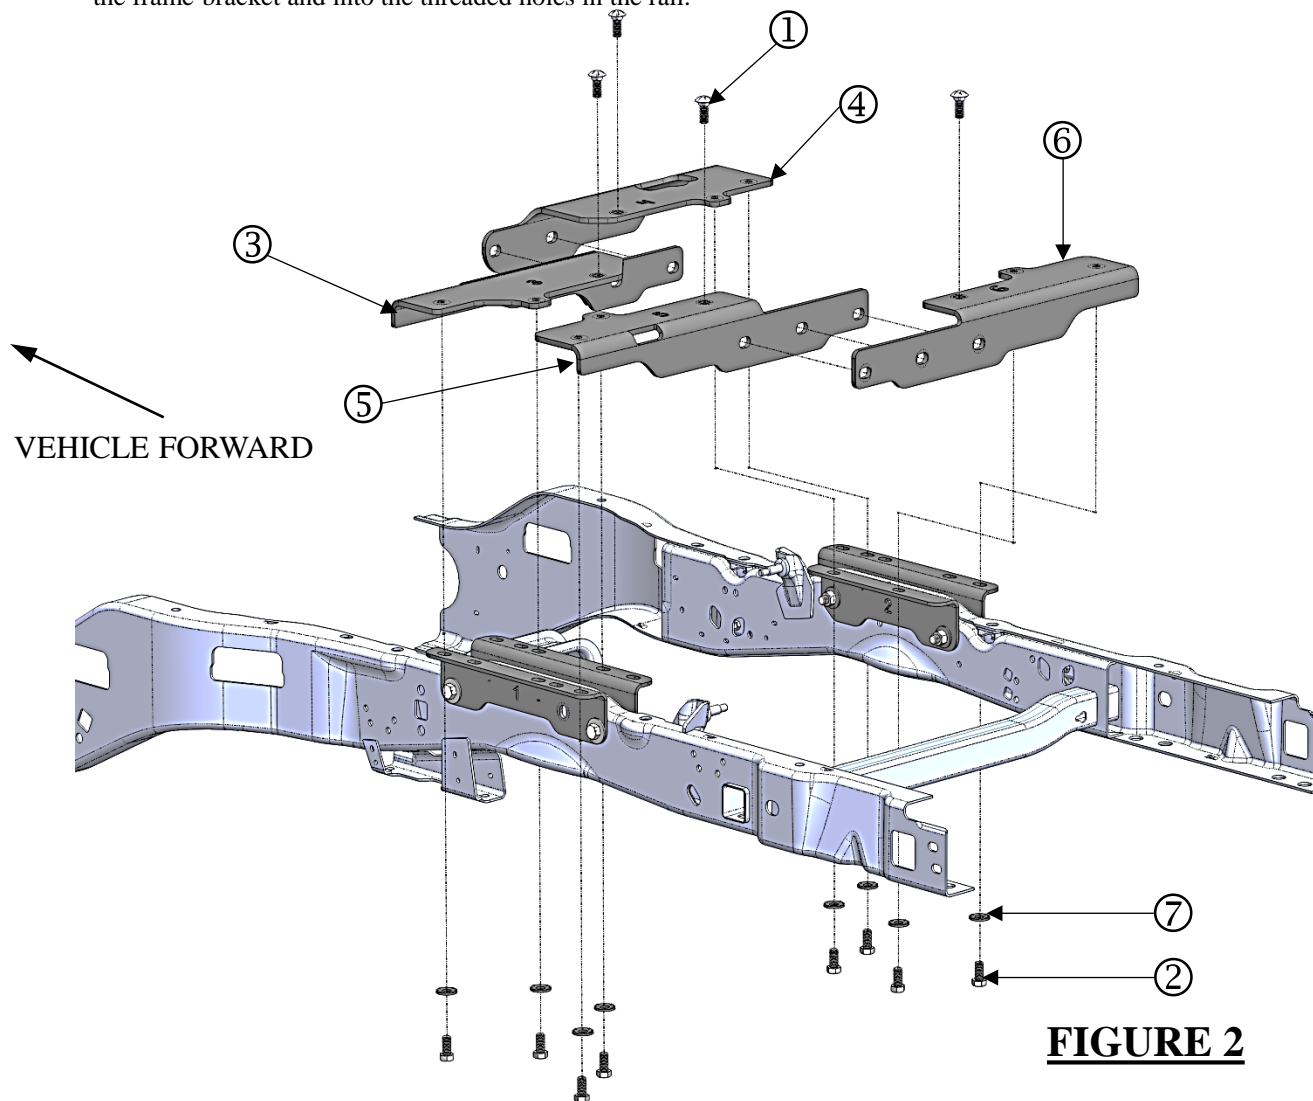
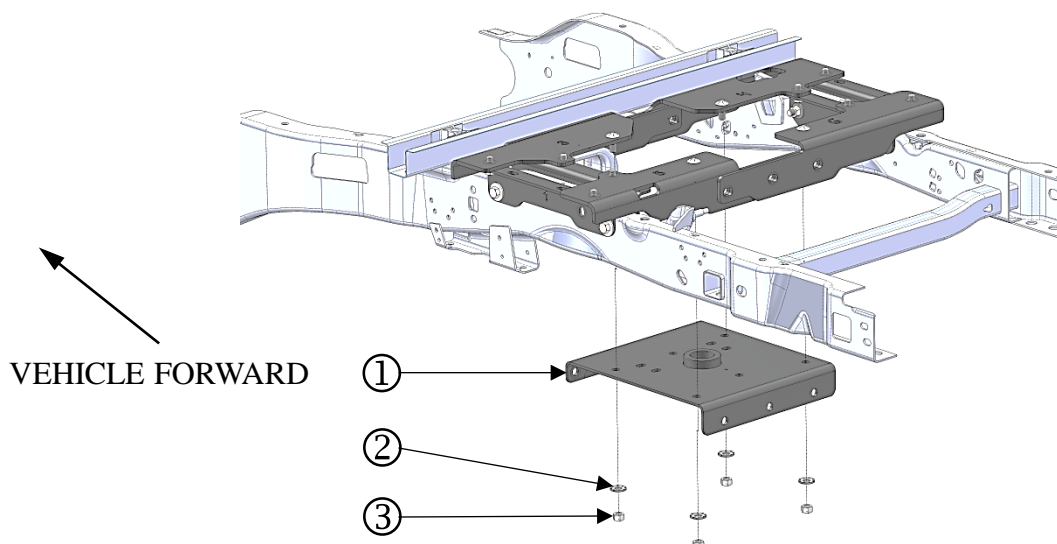

FIGURE 2
FIGURE 3
Mounting Rail Installation-Figure 2
GOOSENECK CENTER SECTION INSTALLATION-Figures 3 & 4.
- Step 1, **Figure 3**. From underneath the vehicle, raise the gooseneck center section (#1) up to the bottom side of the rails as shown and route the carriage bolts previously installed in the rails (page 3 fig. 2) through the 4 outside holes in the center section, and secure using (4) 5/8" dia. conical washer (#2) and (4) 5/8-11 Gr. 8 hex nut (#3).